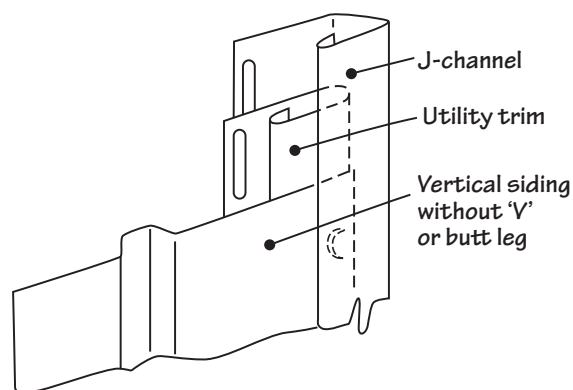

Figure 56.
- Use a snap lock punch to create tabs every 6" (152mm) along the cut edge. Depending on where the cut occurs, you may be required to install utility trim inside the receiving pocket of the J-channel or corner post, which receives the vertical siding (Fig. 56). You may also need to shim the utility trim outward to a level equal that of the siding panel face, in order to keep a level appearance.